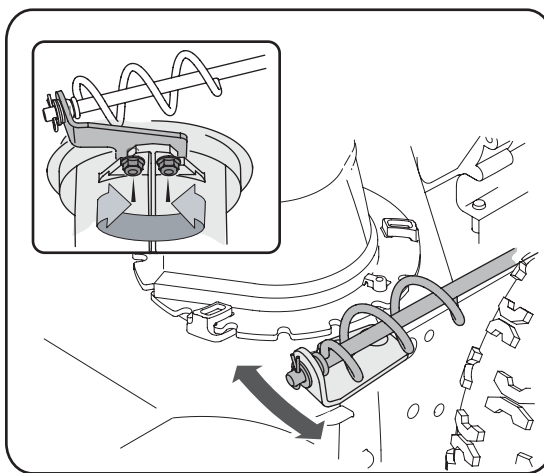

Figure 5-5
1. Loosen the two nuts which secure the chute bracket and reposition it slightly. See Figure 5-5.